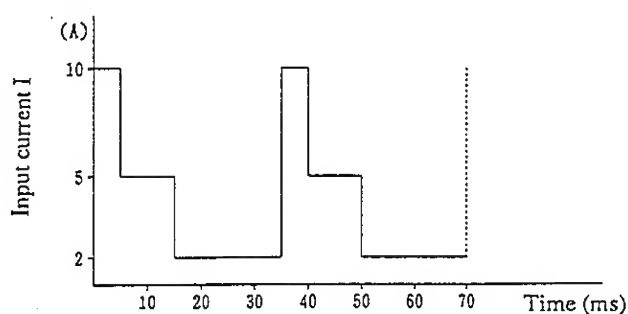

Figure 3.5-9
Assume that data stored on memory units A, B and C are as shown in Table 3.5-2. The switching actions in this case will be as shown in Figure 3.5-9.
- If you need a trigger signal delivered in synchronization with the switching timing, press the [SHIFT] + [R SET] (CONFIG) keys to display the configuration menu and select [ON] of menu [8: SW Trig Out]. If you do this, a trigger pulse signal (in synchronization with the switching points shown in Figure 3.5-9, for example) will be delivered. A trigger output terminal for this purpose is provided on the front sub-panel. The trigger output signal is delivered also to the trigger output terminal of the external control connector on the rear panel.
- ① Press the [I SET] or [R SET] key to enable the switching mode of operation.